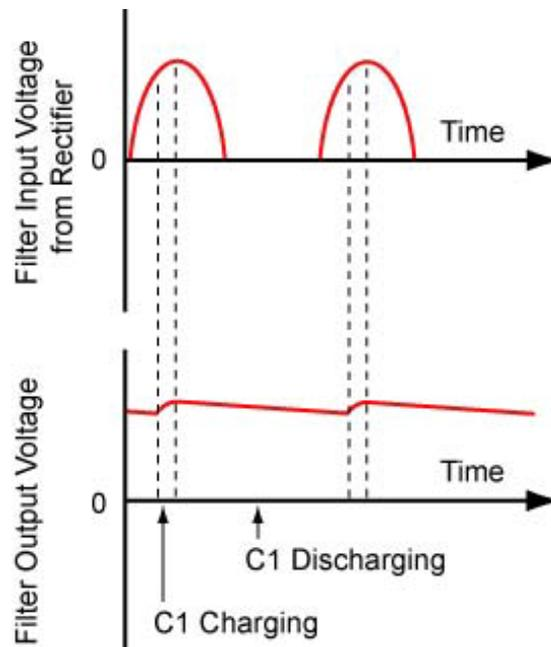

Figure 13 Input and Output Waveforms of a Capacitive Filter on a Half-Wave Rectifier
- A capacitive filter works by charging the capacitor C1 when the voltage applied to the capacitor is higher than the voltage stored in the capacitor and discharging the capacitor C1 when the voltage applied to the capacitor falls below the voltage stored in the capacitor. See Figure 13. The action of the capacitor smoothes out the valleys of the filter input waveform.